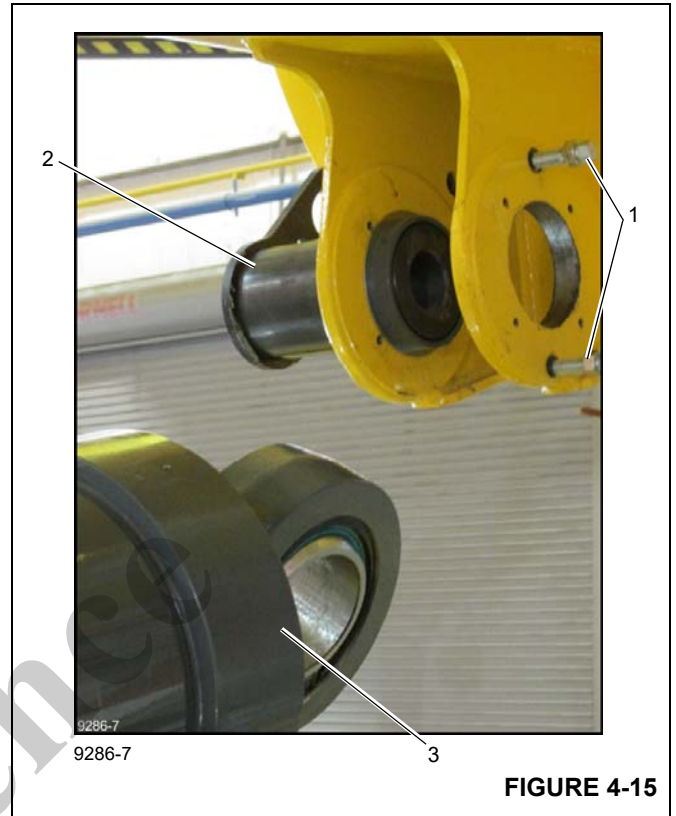

FIGURE 4-15
- 10. Run stop/adjustable bolts (1, Figure 4-15) on the side of the weldment completely out.
- 11. Pull lift cylinder pin (2) far enough out that the cylinder (3) will clear it, install shim and bushing/plate on the pin.